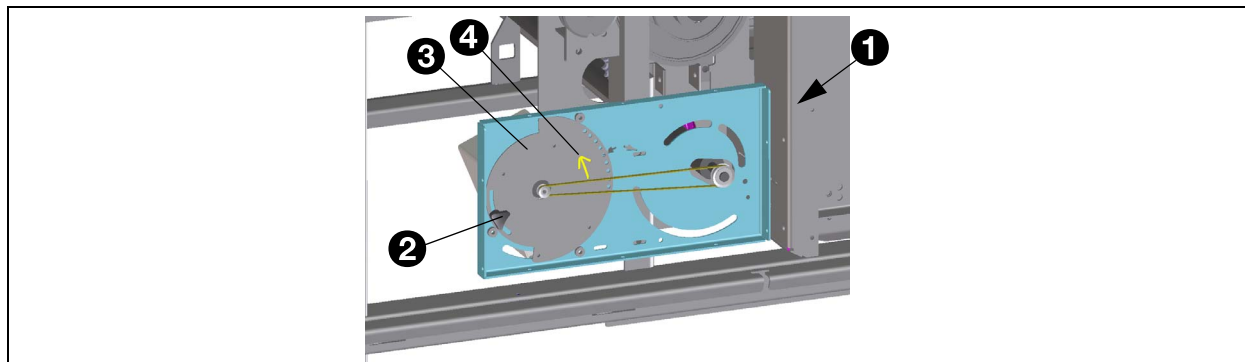
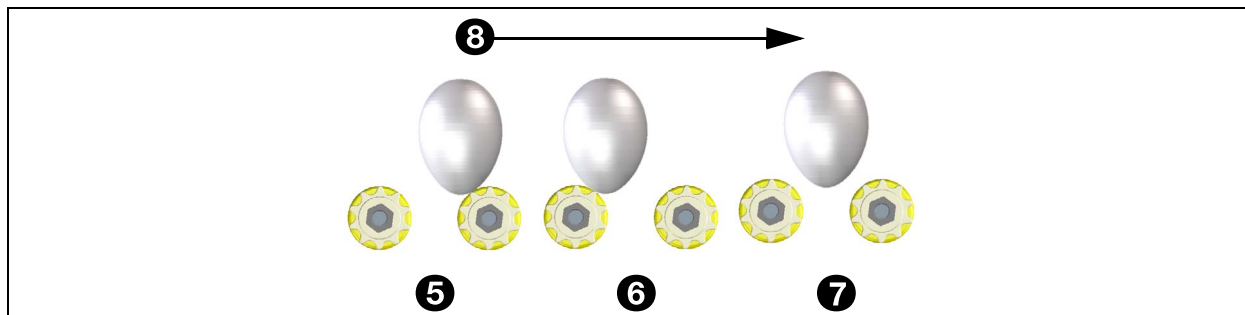

Fig. 128 - Synchro system
Fig. 129 - Placement by the Loader™
1. Loosen the button (2). See fig. 128.
2. Turn the disk (3) to correctly adjust the placement of the eggs.
- Too soon (5), turn the disk towards the arrow. See fig. 129.
- Too late (6), turn the disk in the opposite direction to the arrow.
- Right position (7), tighten the button (2).
***The arrow (4) shows the direction of the movement on the infeed-unit. See fig. 128***
***The arrow (8) in the illustration shows the direction of the egg flow. See fig. 129***